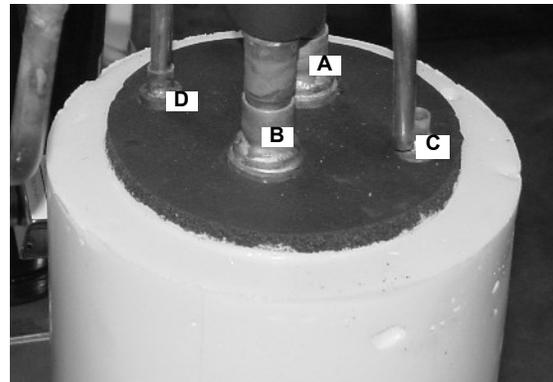

Figure 35.
40. Protecting the Armaflex insulation, as well as the foam insulation on the accumulator, braze the suction inlet (A) and outlet (B) (Figure 35).
41. Braze the liquid line inlet (C) and outlet (D) to the accumulator (Figure 35).